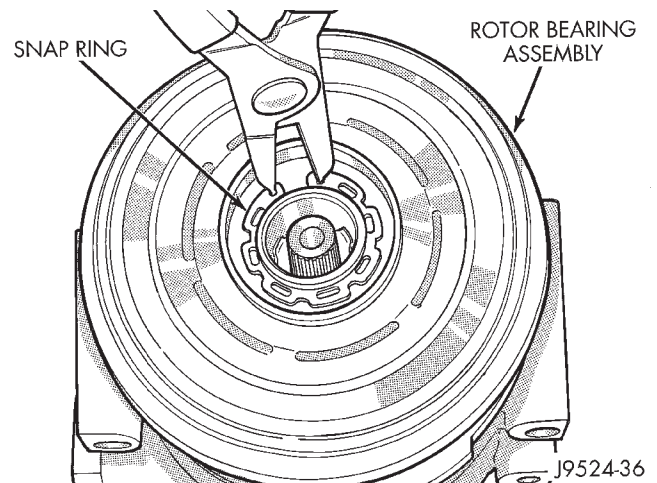

Fig. 13 External Snap Ring Remove/Install
(6) Remove the external snap ring from the front compressor housing hub with snap ring pliers and remove the clutch rotor and bearing assembly (Fig. 13).